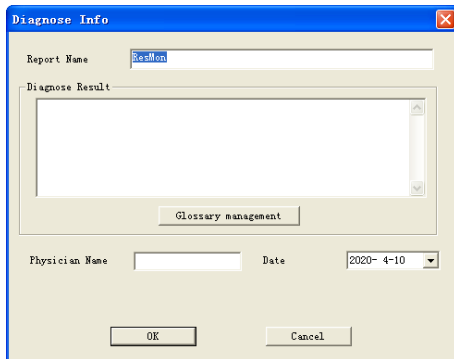

Figure 5.43
- 4) Under the print preview interface, the diagnosis information can be edited and filled into the report. Click "Diagnose" to enter the interface as Figure 5.43, fill the report name into "Report Name" and the diagnosis results into "Diagnosis Result". Click "OK" to fill the report name and diagnosis information into the report.